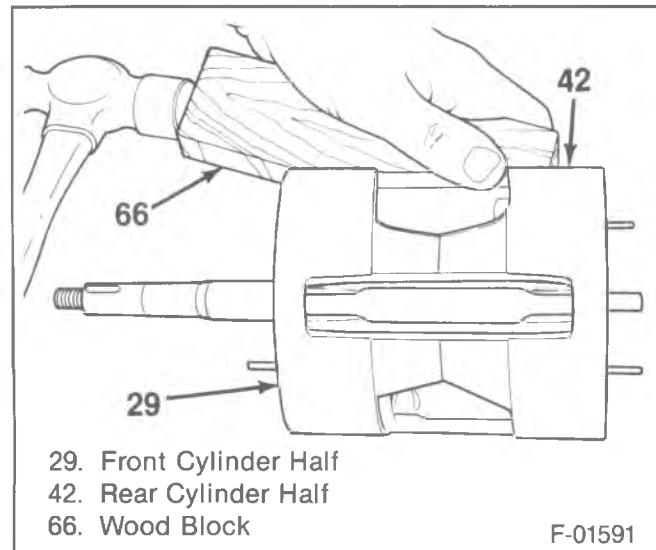
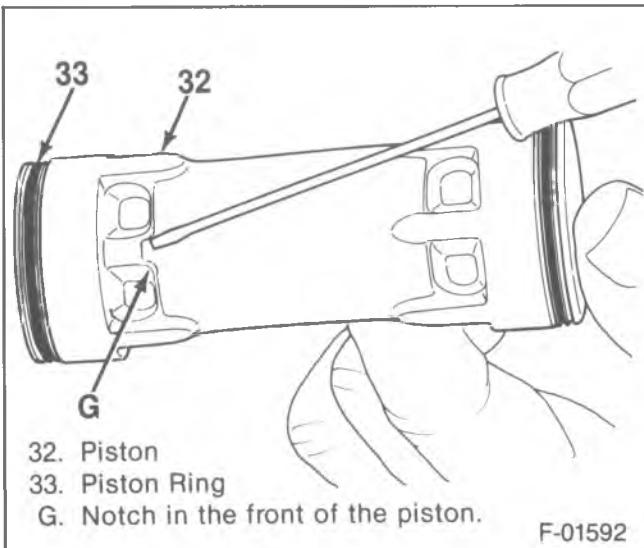

Figure 24—Separating the Cylinder Halves
Figure 25—Identifying the Notch at the Front of the Piston
- Separate the cylinders (29 and 42) with a block of wood and a mallet (figure 24).
- Do not let the discharge cross-over tube (26) touch the axial plate (39).
- Do not strike the shaft at either end to separate the upper and lower cylinder halves because the shaft (39) can be damaged.
- Rear half (42) of the compressor from the pistons (30).
- Front cylinder half (29) with the piston (38), shaft and axial plate (38) to J-9397.
- Pistons (30), balls (31) and seats (33) in the order in which the pistons are marked.
- Place the pistons (32) in J-9402 with the notch in the casting web at the front end of the piston into the dimpled groove of the J-9402 (figure 25).